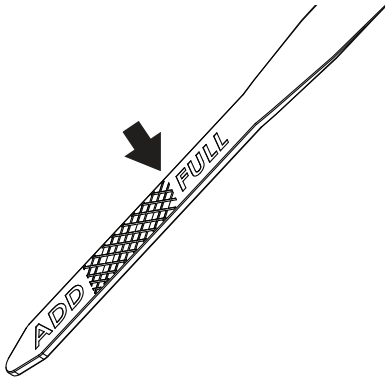

Figure 12
3. Remove the dipstick. Wipe it dry with a clean cloth and completely reinsert it into the dipstick tube. See figure 12, page 24.
13. Fill the engine with the proper amount of engine oil. See Figure 12.